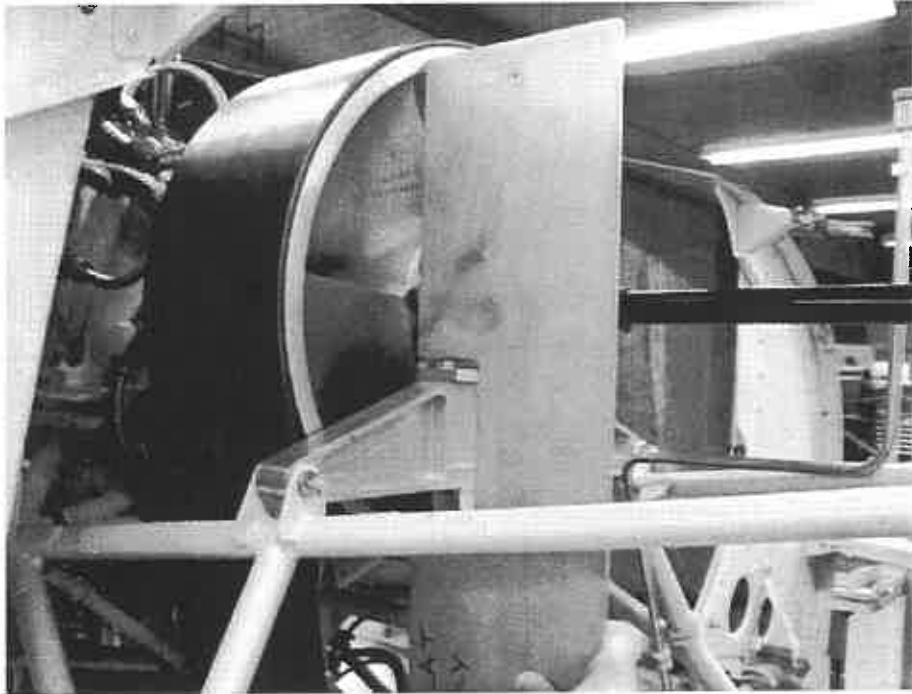

Figure 3 - Alignment Tool at Upper Pulley
4. Ensure the alignment tool is contacting the upper pulley and lower pulley (See Figures 3 and 4).